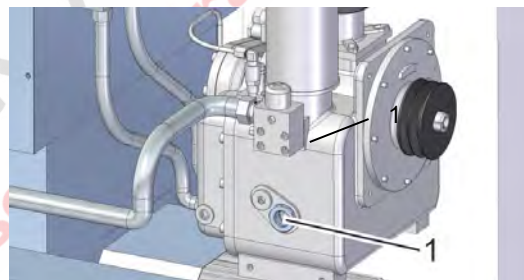

Fig. 27: Checking the oil level in the inspection glass
7. Check the oil level in the inspection glass (Fig. 27/1) and top up as described in ↻ *Chapter 7.4.3 'Checking the oil level/topping up the oil' on page 37* if necessary.